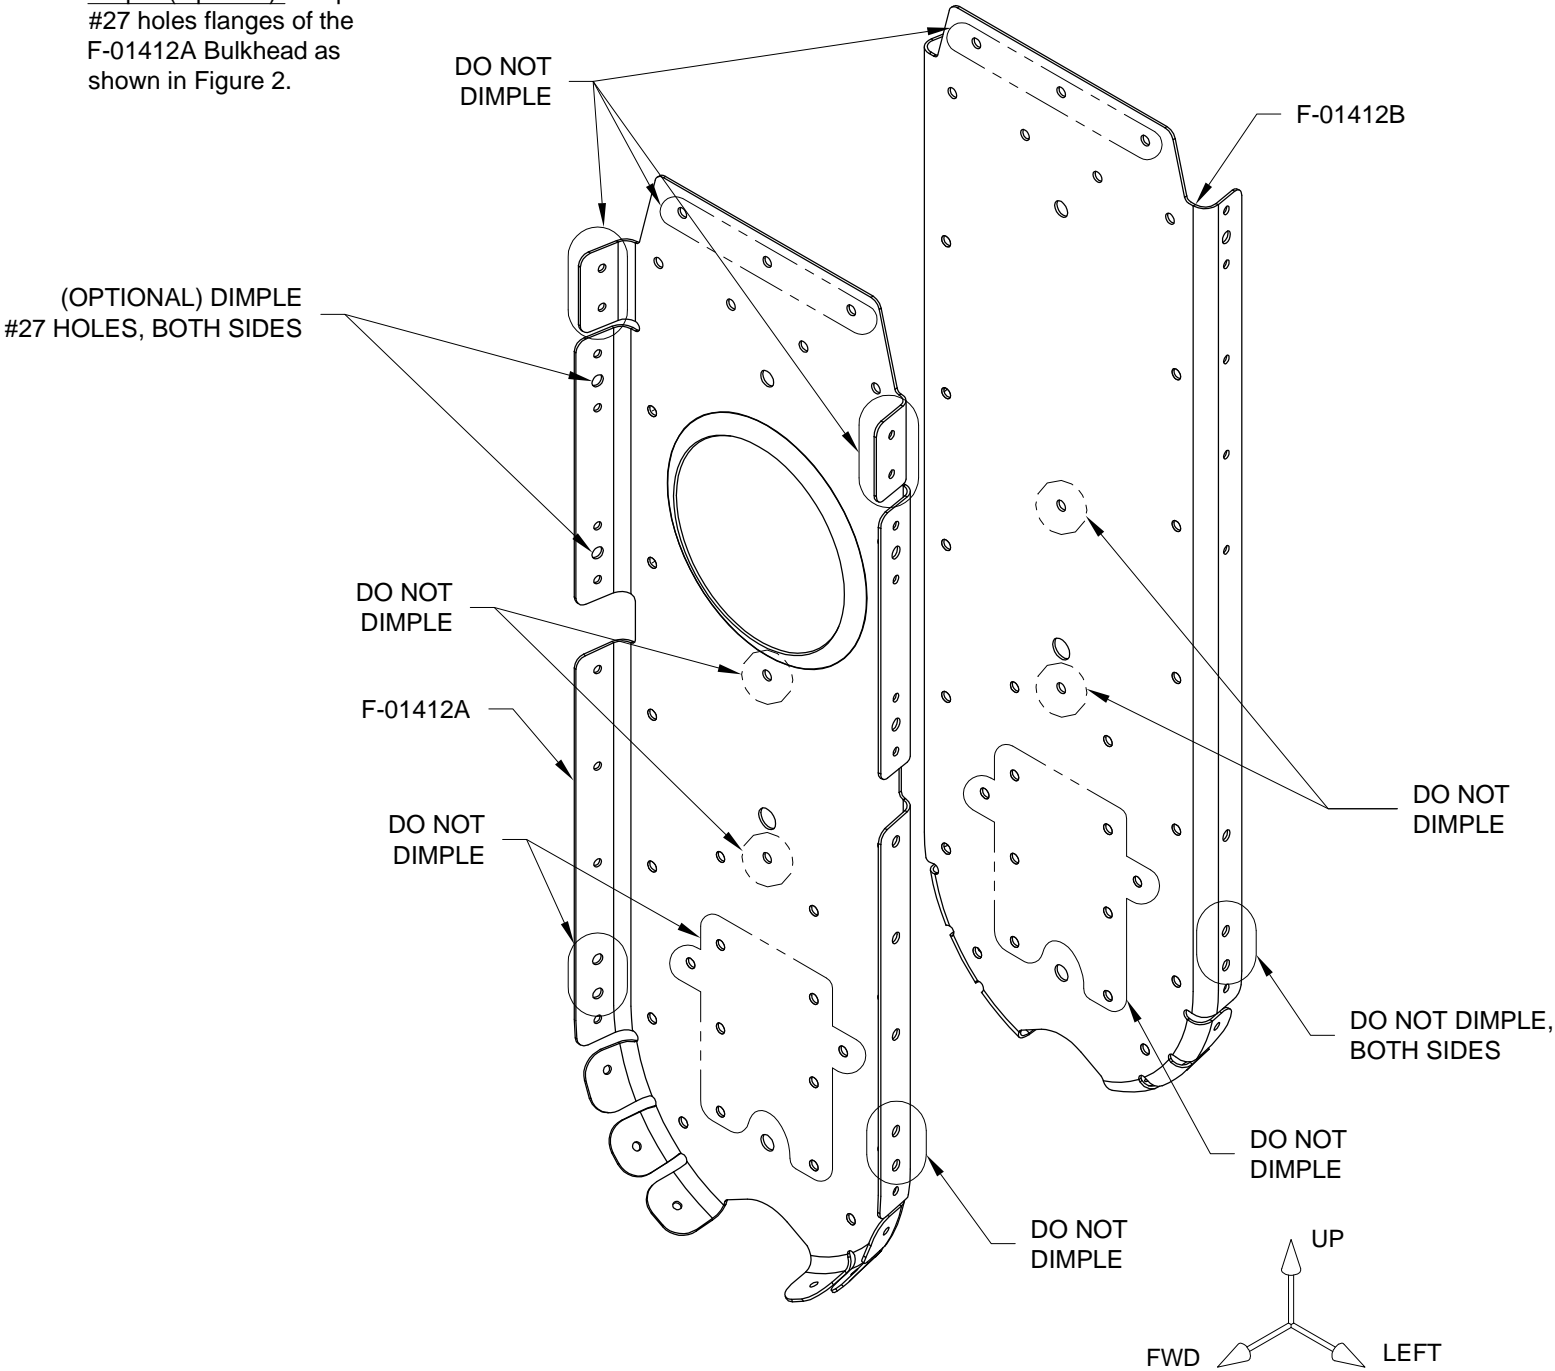

FIGURE 2: F-01412 BULKHEAD
Step 3 (Optional): Dimple the #27 holes flanges of the F-01412A Bulkhead as shown in Figure 2.
Step 3: Dimple the #40 and #30 holes in the bulkhead flanges, except as noted in Figure 2.